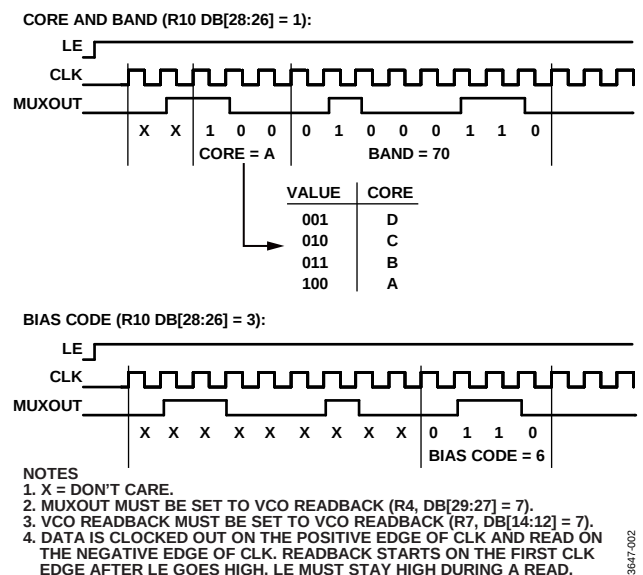

Figure 2. VCO Readback
- Pulse SPI CLK while LE is kept high. The data outputs on MUXOUT. Extract the data as shown in Figure 2.